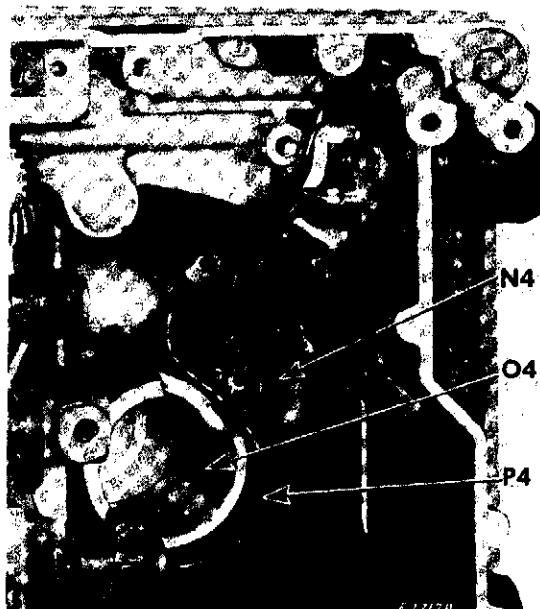

Fig. 301. Location of Wires
1. Make sure that wire **P4**, Fig. 301 is correctly located around and under cylindrical tube **O4**; then up behind three-pin terminal **N4**, as shown in Fig. 301.